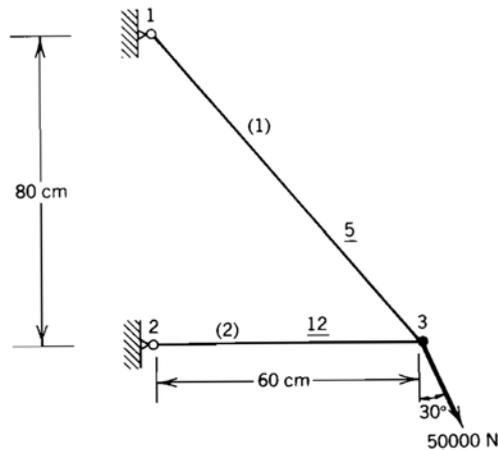

Figure 6
3. Each joint of the structural system is a pinned joint. The node numbers and element numbers are given on the Figure 6. The cross-sectional area of each member in cm^2 is underlined. Each member is made from steel, $E=20 \times 10^6 \text{ N/cm}^2$. All lengths are given in centimeters. Calculate the unknown nodal displacements and the axial forces produce a system that is equilibrium. There is no temperature change.